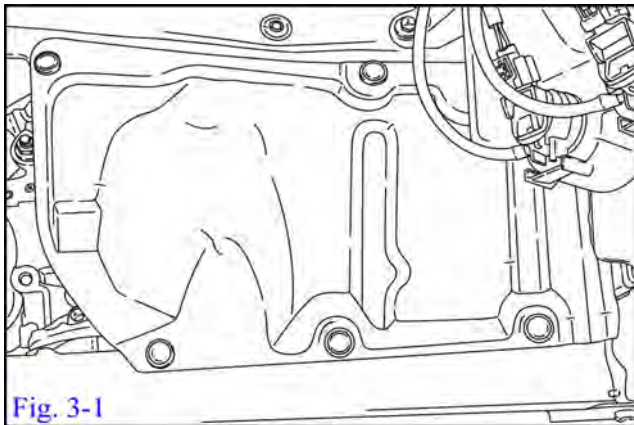
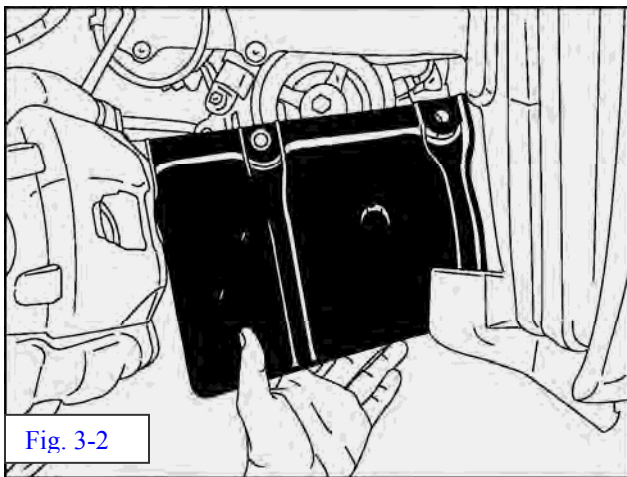

Fig. 3-1
Fig. 3-2
- (a) Remove passenger side front tire/wheel assembly in order to properly access fender shroud and crankshaft pulley bolt. (Fig. 3-1)
- (b) Remove passenger side plastic body/fender shrouds in order to gain access to crankshaft pulley. (Fig. 3-1 and Fig. 3-2). Use a small screwdriver to remove the 5 plastic clips. **NOTE:** The inner fender lining has been removed to expose the two forward clips.)